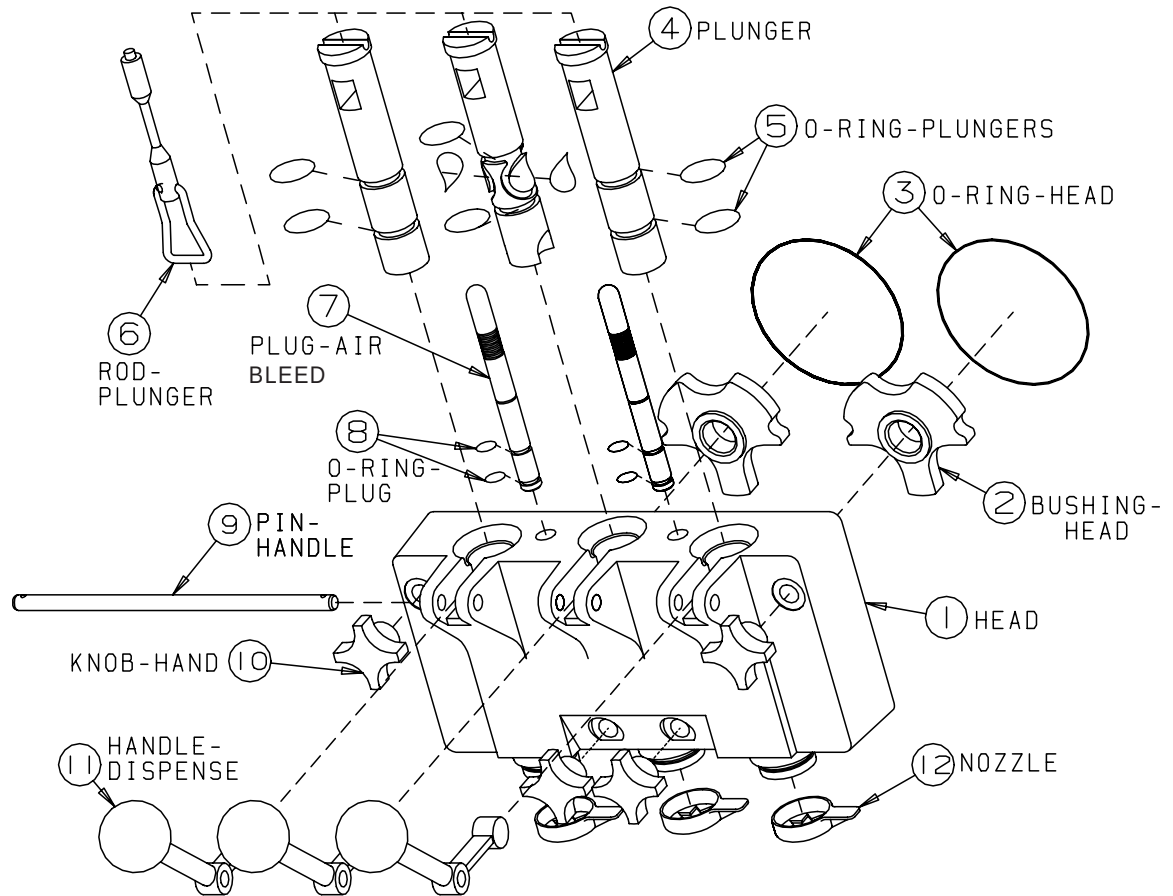

Figure 6-2 Head Assembly
2. Remove the plunger rods (6, figure 6-2) by lifting up and swinging the bottom out and down. Remove hand knobs (10) and pull the dispensing head (1) straight out.
6. Remove the air bleed plugs (7, figure 6-2) and remove the two O-rings (8) on each plug.